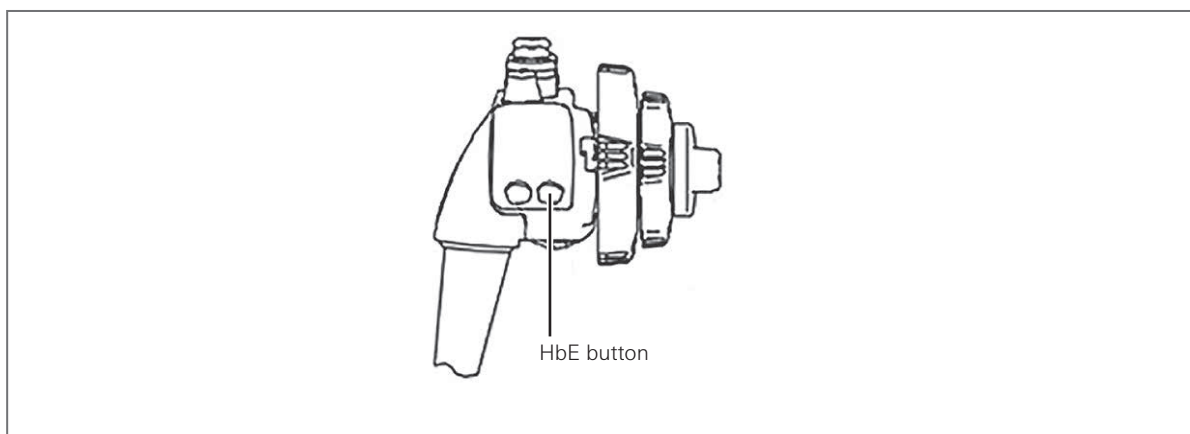

Figure 4.2
1. Press the HbE button on the front panel of the video processor or HbE button on the handle of endoscope (see Figure 4.2) to turn ON the Hb enhancement. Press the HbE button on the front panel of the video processor or HbE button on the handle of endoscope again to turn OFF the HB enhancement.